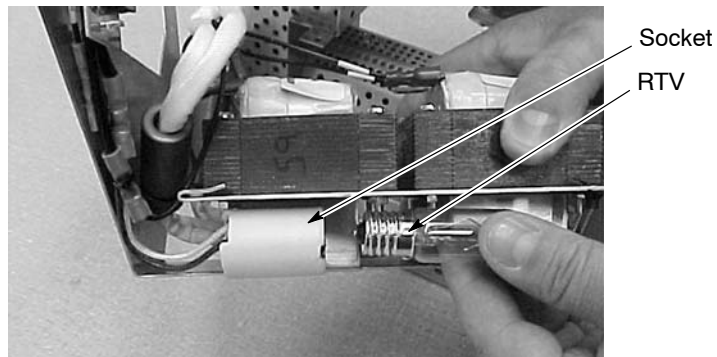

Figure 6-24 Starter Bulb Replacement
2. See Figure 6-24. Cut the RTV sealant at the bulb base and unscrew the bulb.